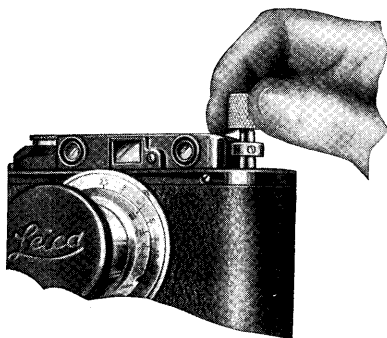

Fig. 25. Extensible back-winding knob
*The evidence that the film is advancing properly is the rotation of the back-winding knob 12 against the direction of the arrow, which must be given particular attention when commencing to photograph.* If the back-winding knob, even after several turns of the winding knob, does not rotate, the reversing lever 6 must be set from A to R, the back-winding knob pulled out (see Fig. 25) and turned in the direction of the